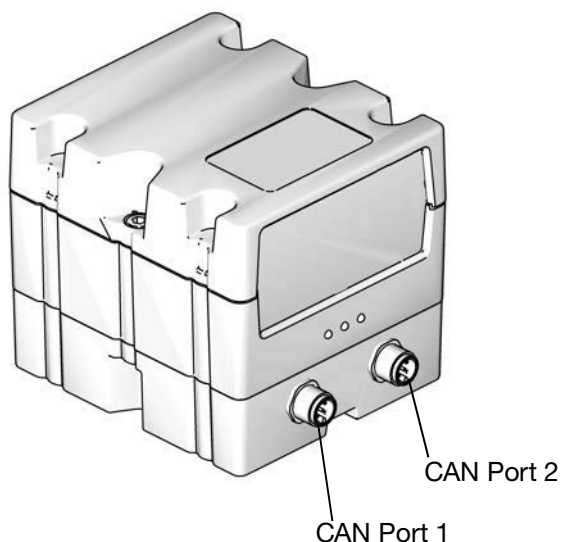

Fig. 36: CGM CAN Connections
10. Connect the other end of the CAN cable to either CAN port 1 or 2 on the CGM. See FIG. 36. It can be connected to either port.